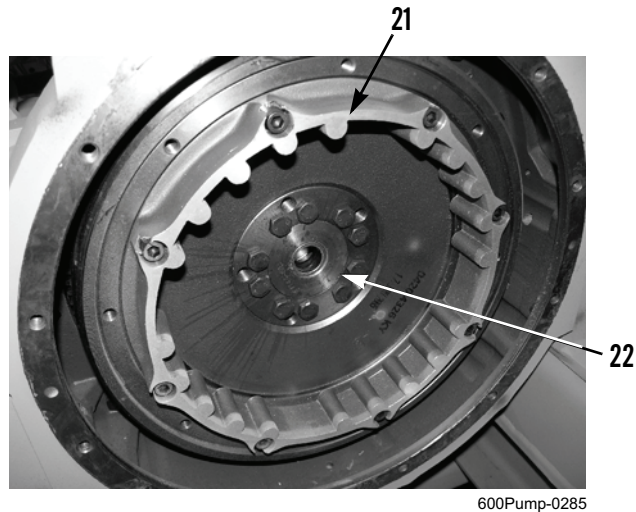

Figure 6. Outer Ring of Coupling and Pilot Bushing Assembly at Engine Flywheel Bore.
1. If removed, install pilot bushing assembly (Figure 6, Item 22) in bore of engine flywheel IAW WP 0073.
2. If removed, install outer ring (Figure 6, Item 21) on engine flywheel IAW WP 0073.